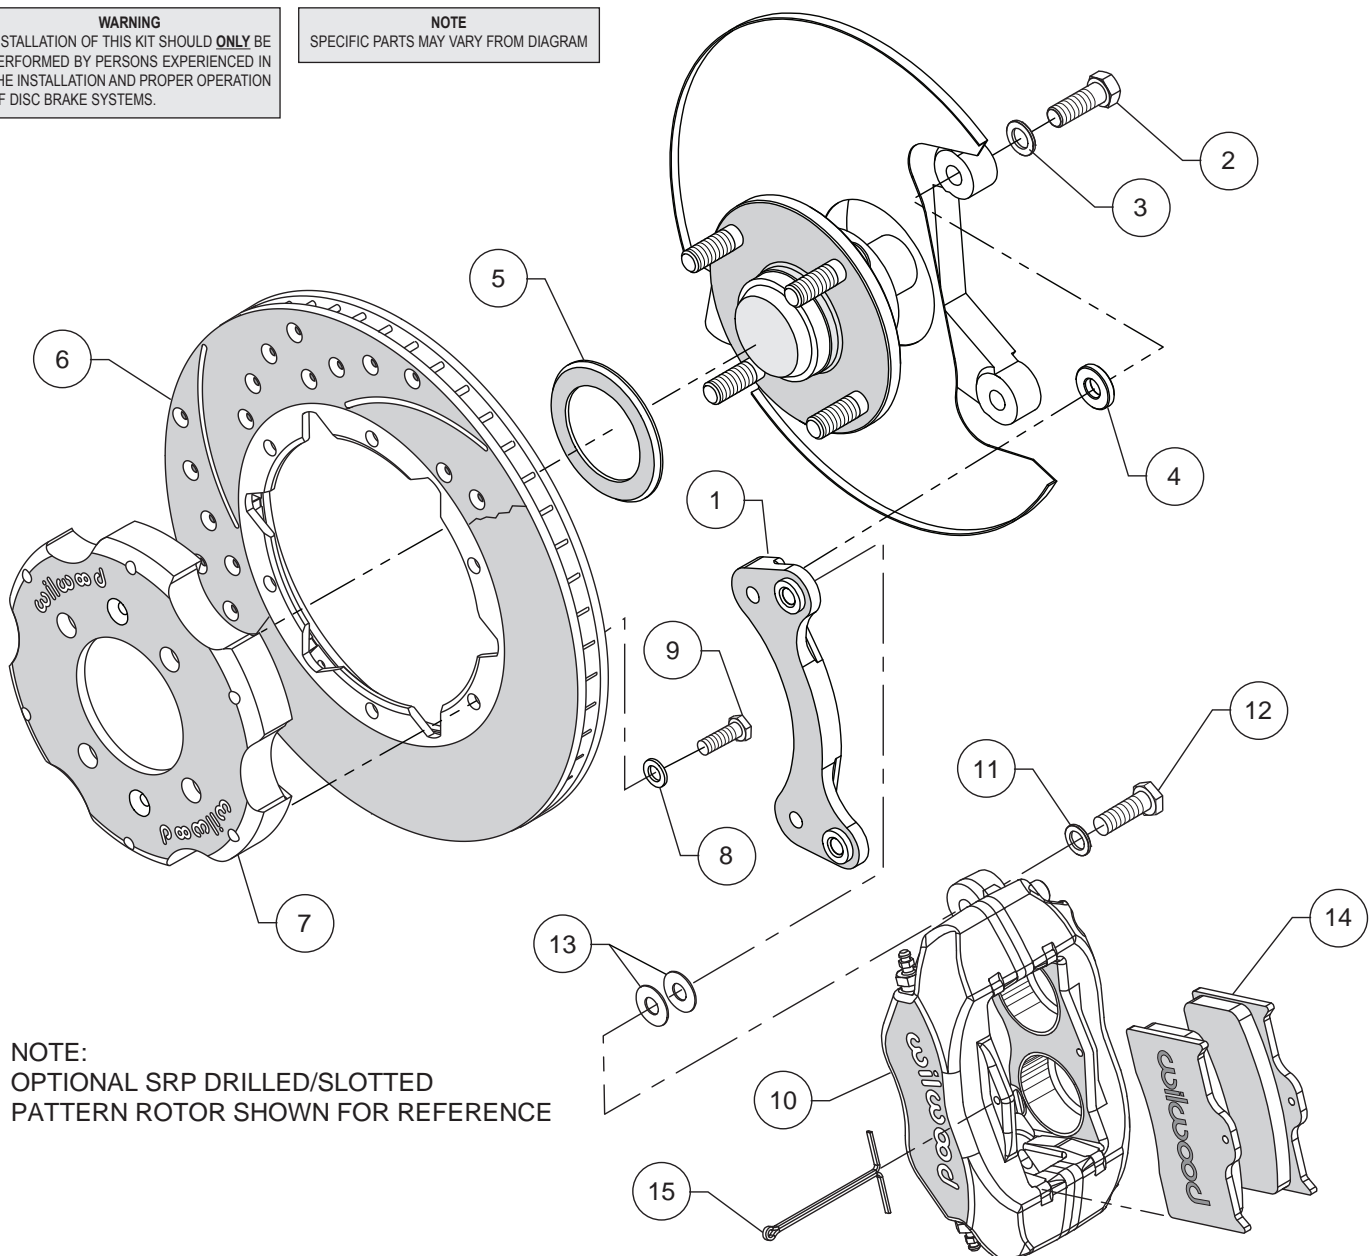
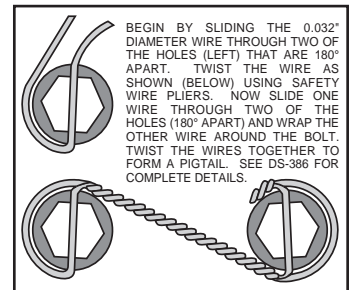

Figure 1. Typical Installation Configuration
Figure 3. Safety Wire Diagram
Assembly Instructions (numbers in parenthesis refer to the parts list and Figure 1 on the preceding pages): **CAUTION:** All mounting bolts must fully engage clinch nuts. Be sure to check that all bolts are either flush or protruding through flanged side of clinch nut after shimming, Figure 4.
- Orient the caliper mount bracket (1) as shown in Figure 1 and Photo 1, and install using bolts (2) and washers (3). Place a spacer (4) on each bolt between the bracket and caliper mounting bosses, Figure 1 and Photo 2. Ensure that the flanged heads of the clinch nuts in the bracket are facing outboard, Photo 1. Temporarily tighten the mounting bolts. **NOTE:** The bracket must fit squarely against the mount bosses on the upright. Inspect for interference from casting irregularities, machining ridges, burrs, etc. Remove bolts one at a time, apply red *Loctite*[®] 271 to the threads and torque to 30 ft-lb.
- Orient the rotor (6) and the hat (7) as shown in Figure 1 and Photo 3. Attach rotor to hat using bolts (9) and washers (8). Using an alternating sequence, apply red *Loctite*[®] 271 to the threads, and torque to 85 in-lbs. Safety wire bolts using standard 0.032 inch diameter stainless steel safety wire as shown in Figure 3. Please refer to Wilwood's data sheet DS-386 (available at www.wilwood.com/Pdf/DataSheets/ds386.pdf) for complete safety wire installation instructions.
- **NOTE:** Please reference the caution statement at the beginning of the assembly instructions. Mount the caliper (10) onto the caliper mounting bracket (1) using bolts (12) and washers (11), as shown in Figure 1. Initially place two .035" thick shims (13) on each bolt between the caliper and the bracket, Photo 5. Temporarily tighten the mounting bolts and view the rotor (6) through the top opening of the caliper. The rotor should be centered in the caliper, Photo 6. If not, adjust by adding or subtracting shims between the bracket and the caliper. Always use the same amount of shims on each of the two mounting bolts. **NOTE:** The end of each bolt must be flush with or slightly protruding from the head of the clinch nut, as shown in Figure 4. If necessary place spare shims between washer (11) and caliper mounting ear to achieve the proper clinch nut engagement. Once the caliper alignment and clinch nut engagement are correct, remove the bolts one at a time, apply red *Loctite*[®] 271 to bolt threads, and torque to 40 ft-lb. Safety wire the bolts as shown in Figure 3.